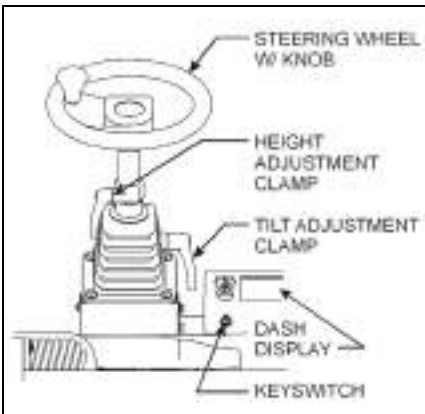

Figure 4-5: Steer Wheel & Tilt Clamp
The steering wheel is equipped with a steering knob, which should be held firmly with your left hand at all times. See Figure 4-5.
To adjust the tilt angle, loosen the tilt clamp (or lever), adjust the angle of the steering column and tighten the tilt clamp. See Figure 4-5.
To adjust the steering wheel height, loosen the telescoping clamp (or lever), adjust the height of the steering column, and tighten the telescoping clamp. See Figure 4-5. Rock the column gently forward and back to ensure the levers are tight.
The key switch is located to the right of the steering column beside the dash display. See Figure 4-5. Insert the key and rotate clockwise to operate the truck. Make sure the direction control switch is in neutral before switching on. All load controls and the accelerator should be in neutral (i.e. not depressed).
The dash display is located to the right of the steering wheel. See Figures 4-5 and 4-6. It is comprised of the following features:
5. Hold the steering knob firmly with your left hand. **See Figure 4-5.**